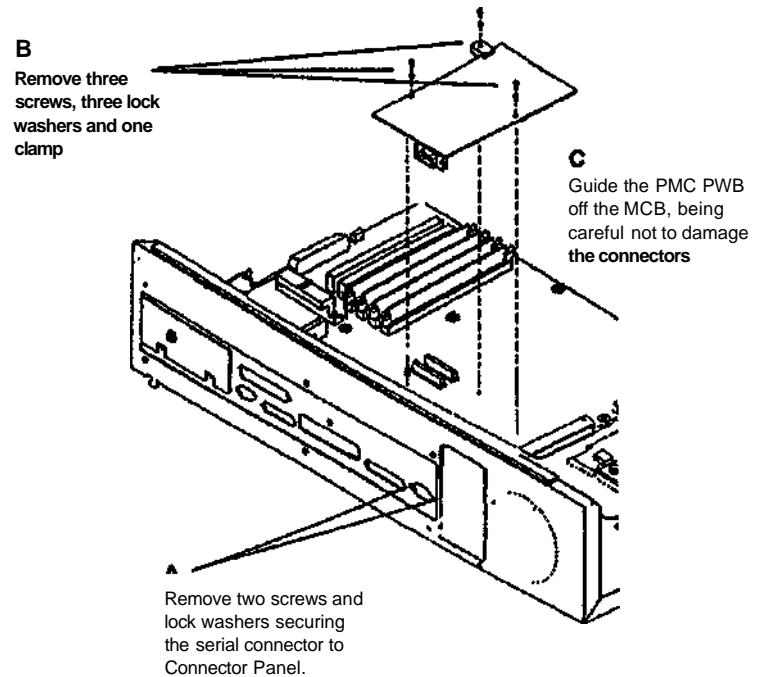

Figure 3 Removing the PMC PWB
7. (Figure 3): Remove the PMC PWB.